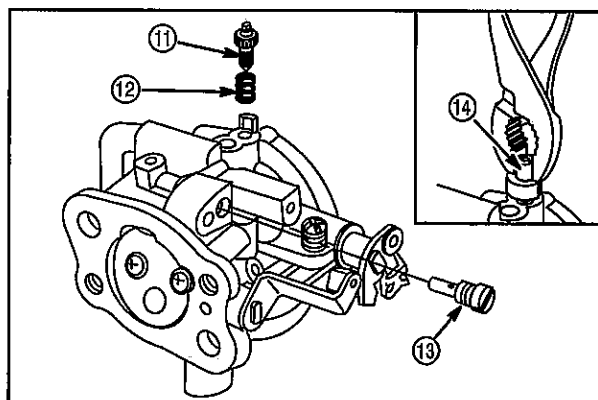

Fig. 46
5. Use a pliers to remove the idle mixture screw adjustment limiter cap (14) if equipped, **Fig. 46**.
6. Remove idle mixture screw (11) and spring (12).
7. Remove pilot jet (13).